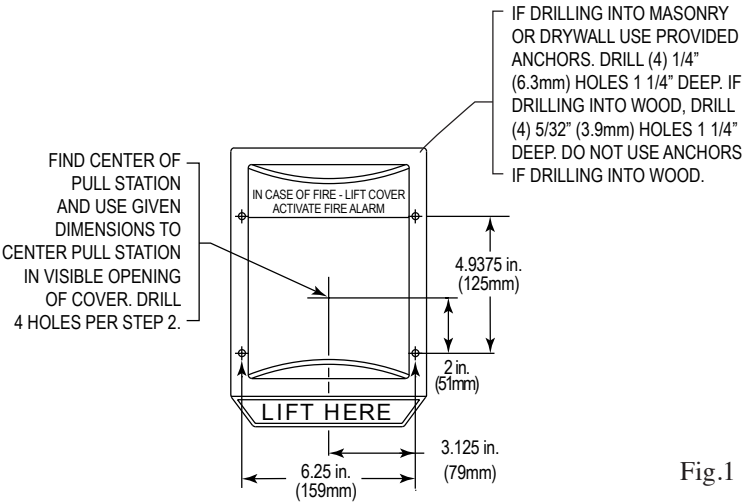
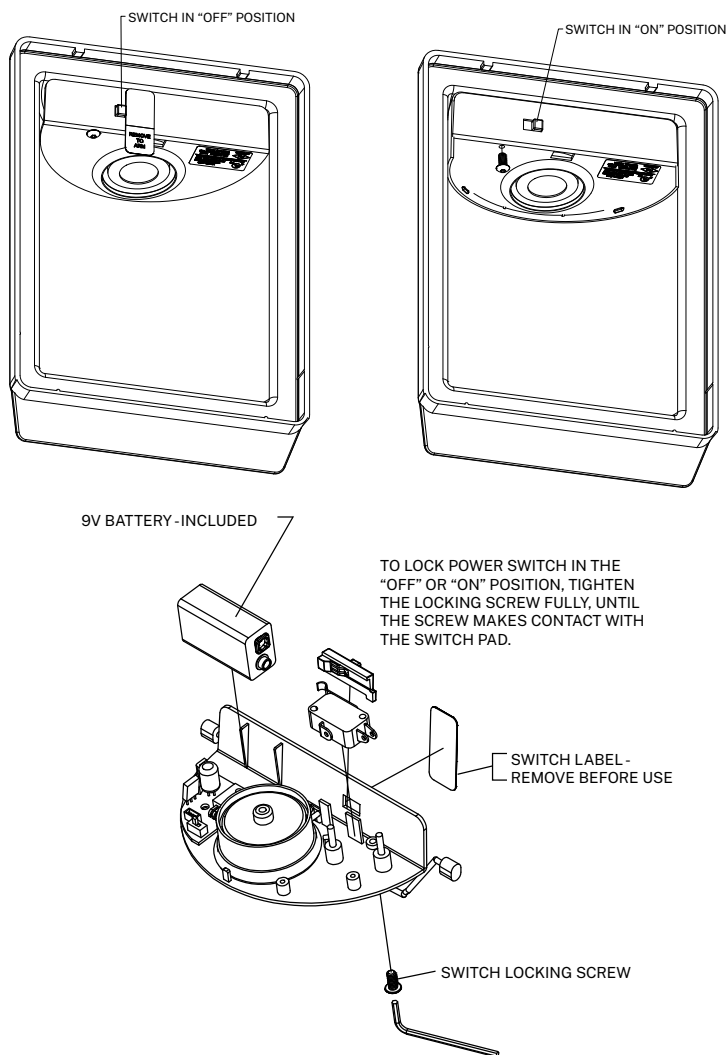

Fig.1
Fig. 5
1. The power switch is in the “OFF” position (Fig. 5). Using frame or optional STI-1280 backplate (recommended with all Weather Stopper® models) as a template, mark mounting holes on wall taking into consideration placement of pull station or refer to Fig. 1 for dimensional hole placement from center of clear opening. **NOTE:** Be sure cover will not interfere with operation of the pull station when installed.
5. Slide power switch, on back of horn housing, to "ON" position (Fig. 5) horn should sound.
6. Push switch in to silence horn while tightening switch locking screw (Fig. 5 for location of screw). This prevents slide switch from being shut off during unauthorized use.